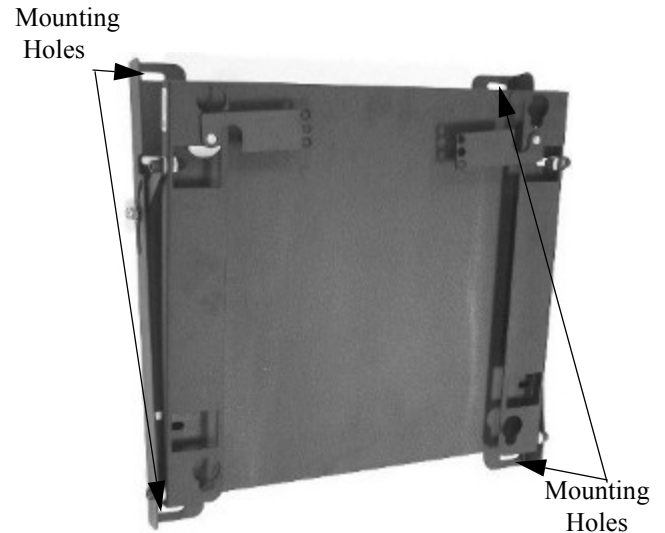

Figure 3. Mounting Hole Locations
2. With the mount correctly oriented and level, secure the mount to the wall (Figure 3) using four fasteners (not included). Fasteners must be driven into the supporting wall studs or other supporting framework.